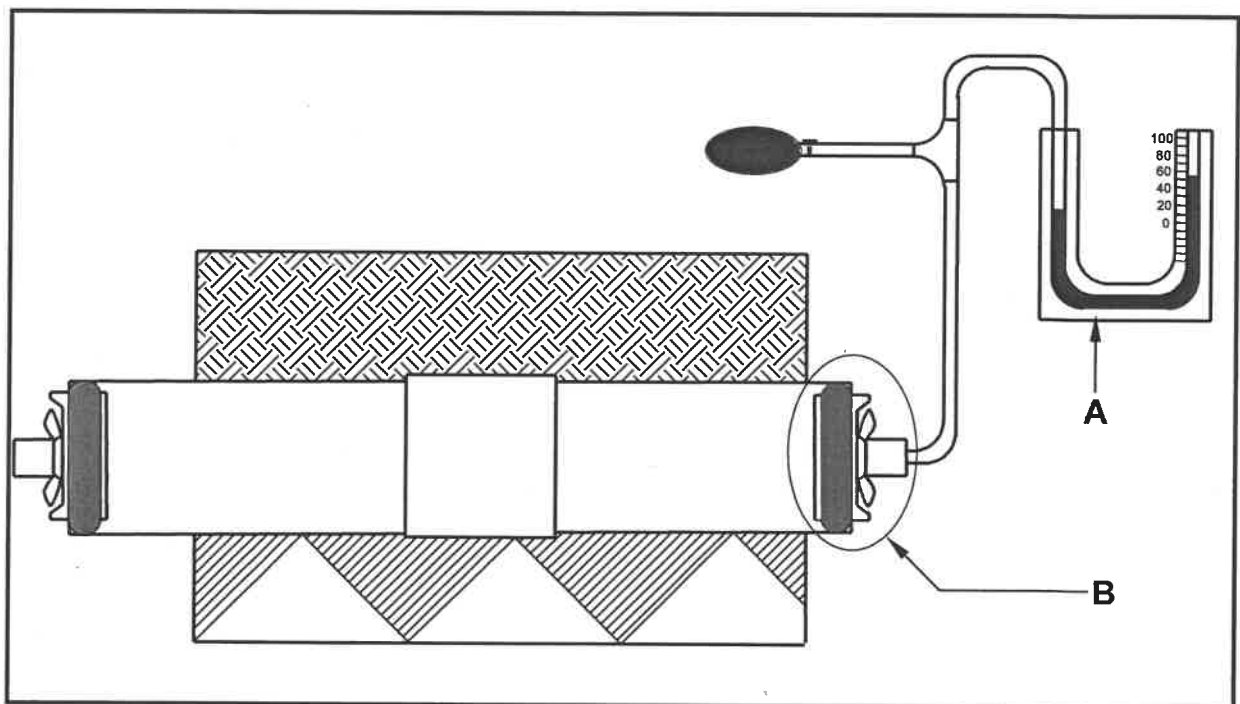

FIGURE 6.4
- 6.4 FIGURE 6.4 below shows the diagram of a test being conducted on a sewer pipeline. (2)